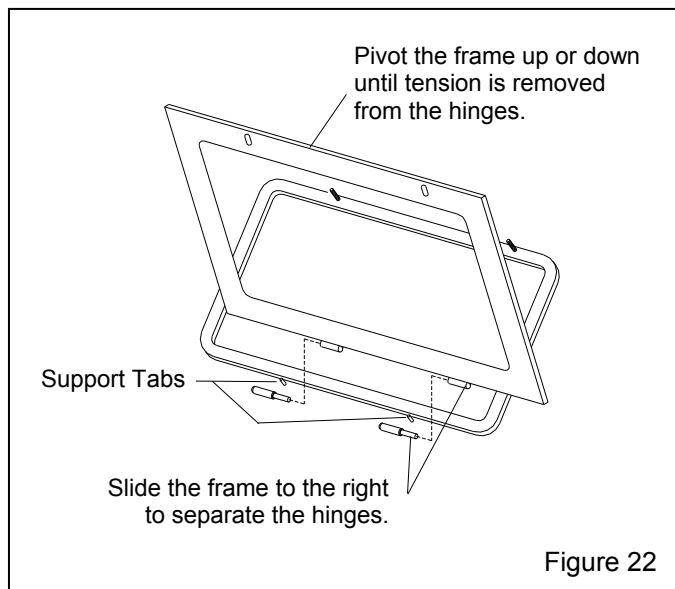

Figure 22
**7.6 Window Frame Removal, Figure 22**
**7.6.4** To remove, slide the frame to the right. The hinges separate as shown in Figure 22.